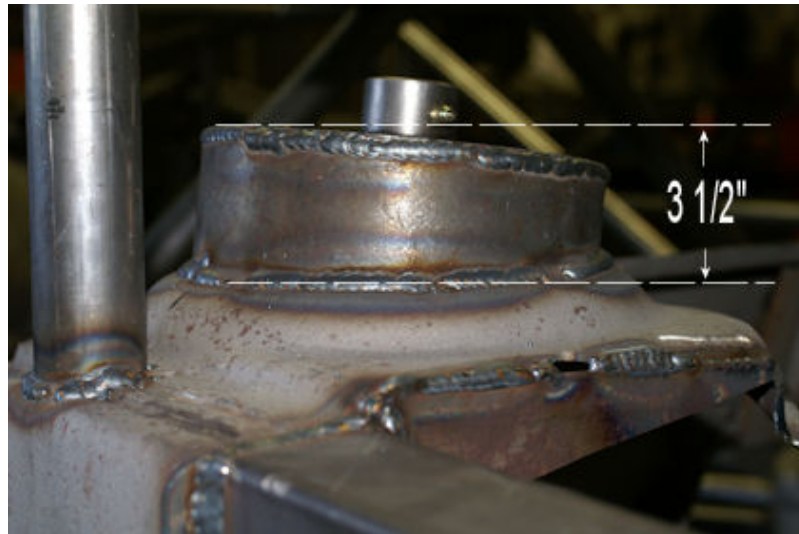

Fig 3
7. Rear springs must mount in stock locations. Rear spring buckets may be used. Aftermarket spring buckets must not be higher than 3 1/2" above frame bulge. (See figure 3)